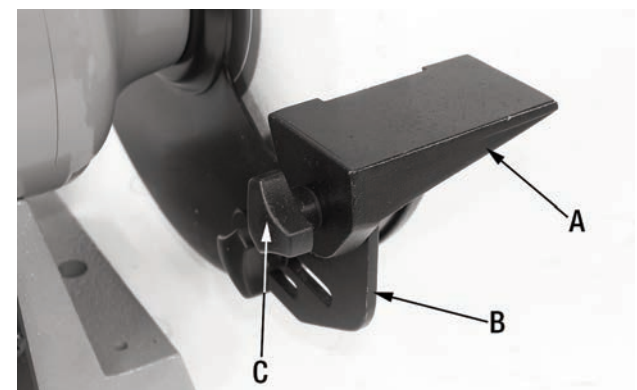

FIGURE 7
3. Install the tool rest (A) Fig.7 to the tool rest support (B) with a washer and lock knob (C) as shown.
4. Adjust the tool rest (A) Fig.7 to ensure the inner edge is 1/16" away from the grinding wheel.